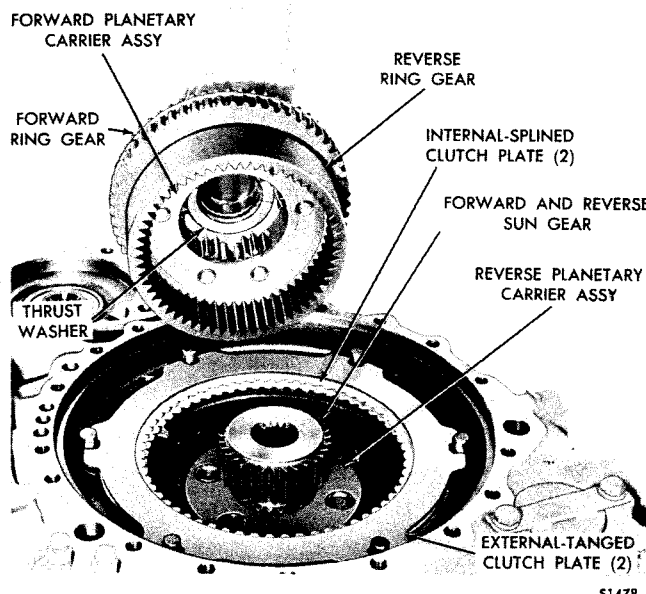

Fig. 7-19. Installing forward planetary carrier assembly and attached parts (-3 model)
(1) Beginning with an internal-splined clutch plate, alternately install two internal-splined plates and two external-tanged plates (fig. 7-19).
(2) Install the forward and reverse sun gear into the reverse planetary carrier assembly (fig. 7-19).
(3) Install ring gear 1 (B, foldout 9) onto carrier assembly 30. Retain it with snapping 11. Install ring gear 14, longer ends of external splines first, onto carrier assembly 31.
(4) Install retainer 21, flat side first, onto the rear of carrier assembly 30. Install bearing assembly 22 against the shoulder at rear of carrier assembly 30.
(5) Install the thrust washer into the forward carrier assembly, using oil-soluble grease to retain it (fig. 7-19).
(6) Install the forward carrier assembly, as assembled in (3), (4) and (5), above, meshing its teeth with those of the reverse carrier pinions and the forward sun gear (fig. 7-19). Also, mesh the external splines of the forward ring gear with the installed internal-splined clutch plates.